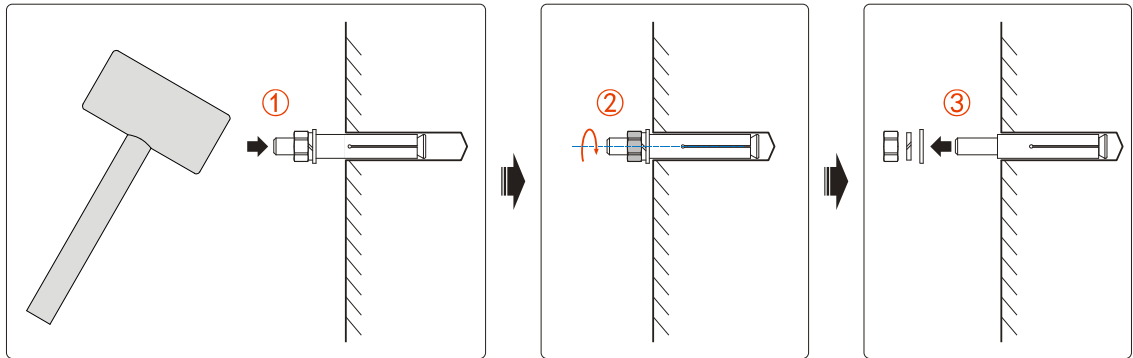

Figure3-22 Expansion bolt installation diagram
- Step 4 Install expansion bolts. Install the four M10*80 expansion bolts into the installation holes, as shown in Figure3-22.